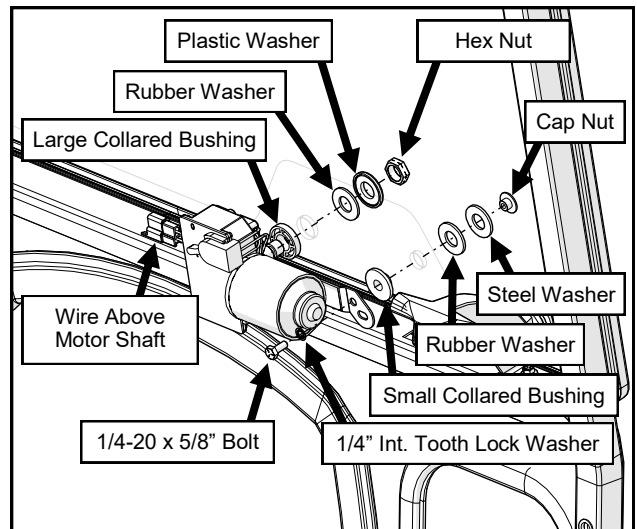

Fig. 14.1 (Windshield Wiper Motor)
- 14.1** Mount the wiper motor to the windshield. See Figure 14.1. Make sure the wires are above the wiper motor shaft to prevent pinching the wire when the windshield is opened and closed.